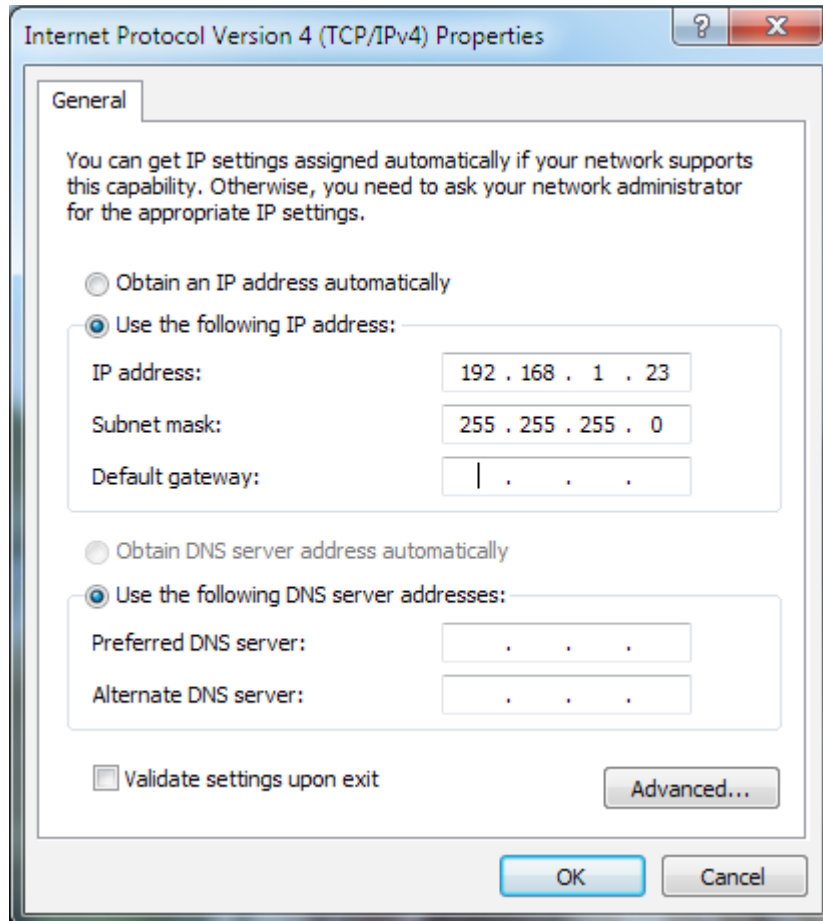

Figure 2.1 - Example of a PC Ethernet Port Settings Window
- A computer (PC or Mac) set to a static IP address in the subnet 192.168.1.xxx, where xxx is a subnet address (0 to 255) not being used by any other device on the network. Do not use 192.168.1.9 or the final IP address you will be setting the NL2 to. See Figure 2.1.